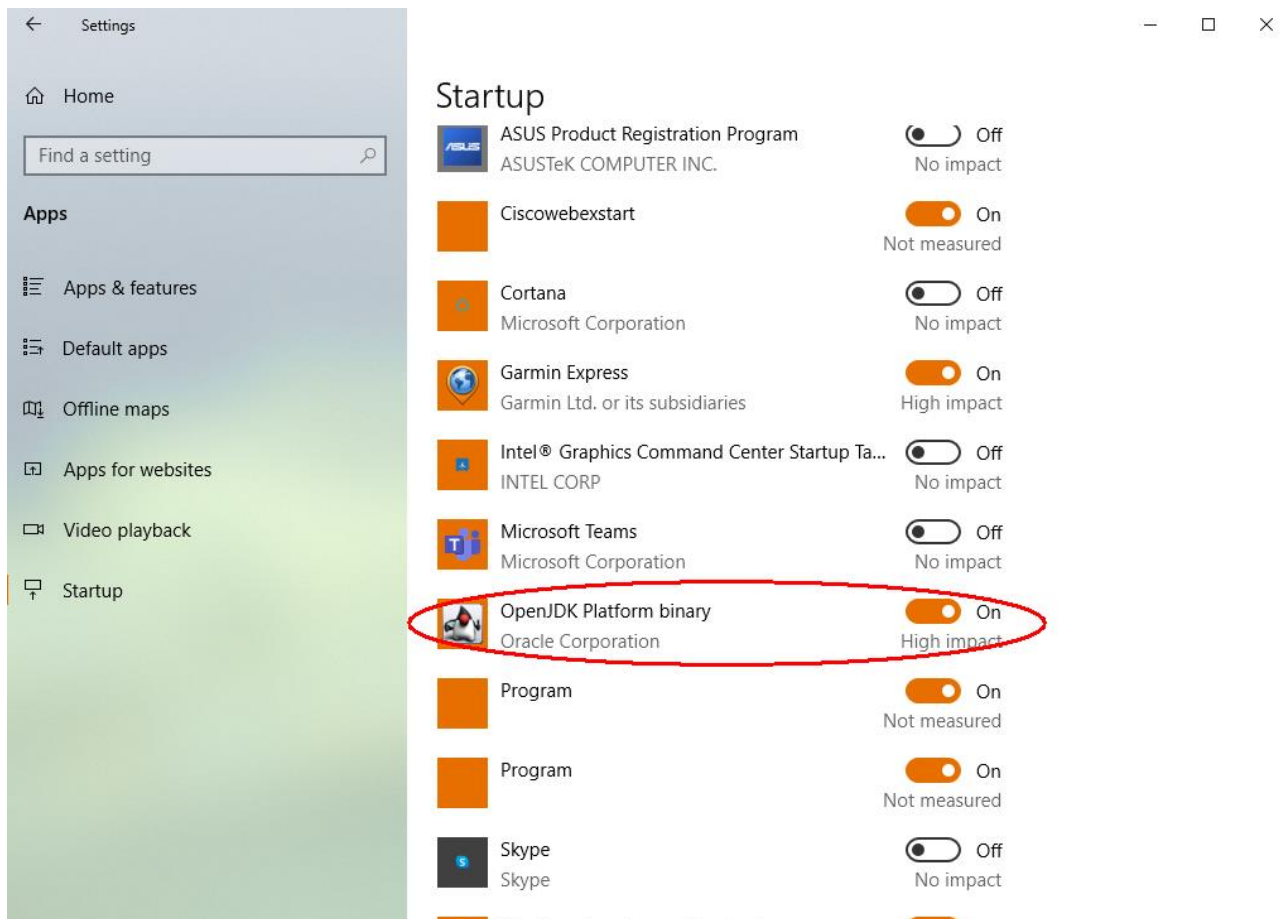
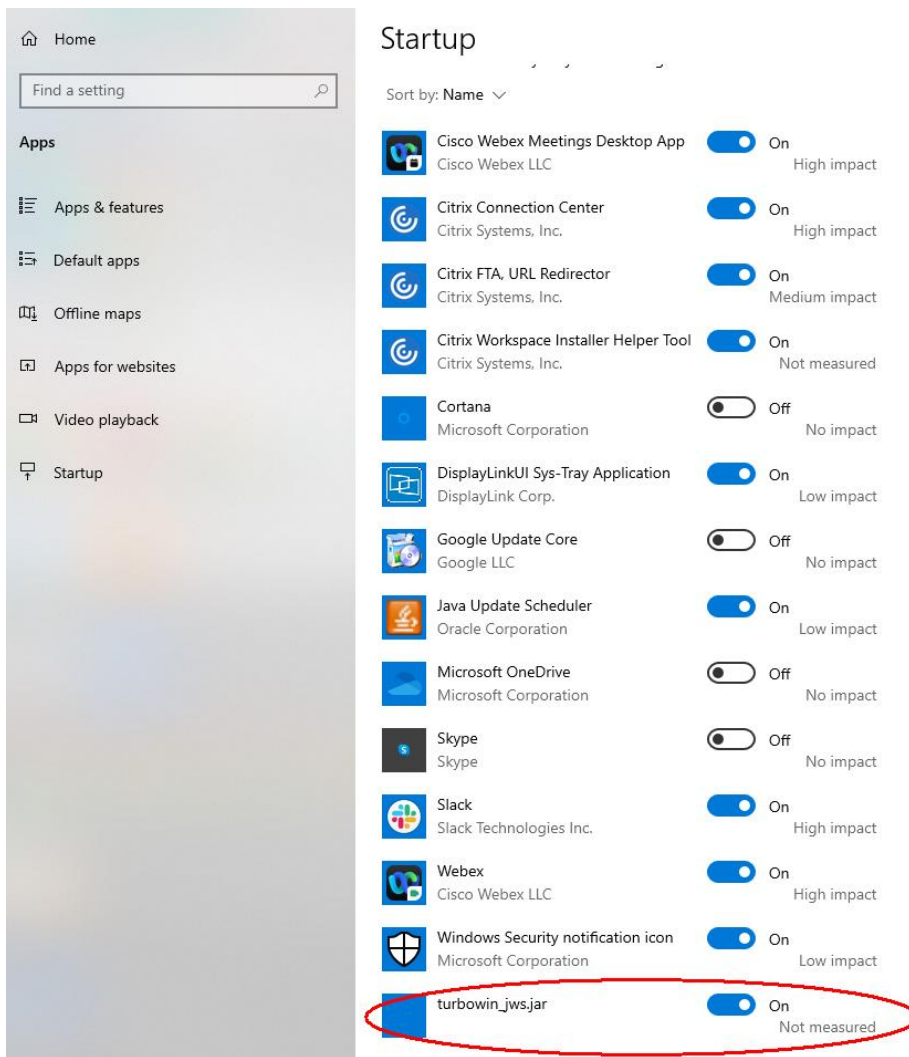

fig 62 Windows 10 64bit startup setting for TurboWin+ autostart
fig 63 Windows 10 32bit startup setting for TurboWin+ autostart
- 4) Note, with the W10 settings menu you also can verify TurboWin+ autostart [fig 62 and fig 63]